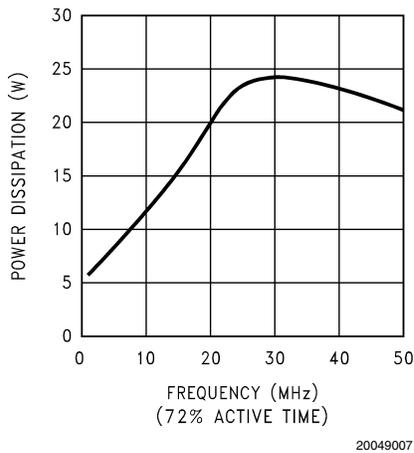
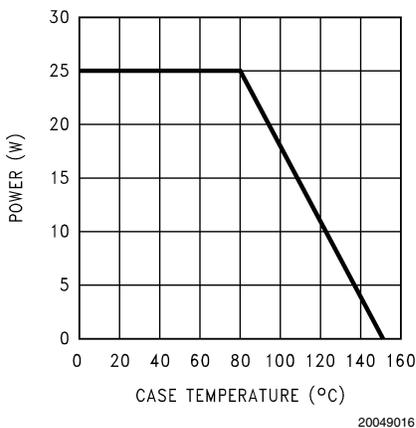

FIGURE 10. Power Dissipation vs Frequency
FIGURE 11. Power Derating Curve
Case Temperature	Refer to Figure 11
*Figure 10* shows the maximum power dissipation of the LM2426 vs. Frequency when all three channels of the device are driving an 8pF load with a 110 $V_{PP}$  alternating one pixel on, one pixel off signal. The graph assumes a 72% active time (device operating at the specified frequency) which is typical in a TV application. The other 28% of the time the device is assumed to be sitting at the black level (165V in this case). This graph gives the designer the information needed to determine the heat sink requirement for his appli-
*Figure 10* and *Figure 11* are used to design the heatsink for the LM2426. For example, if the maximum bandwidth needed will be 30MHz, the power dissipated will be 24.0W (from *Figure 10*). *Figure 11* shows that the maximum allowed case temperature is 83°C when 24.0W is dissipated. If the maximum expected ambient temperature is 70°C, then a maximum heatsink thermal resistance can be calculated: